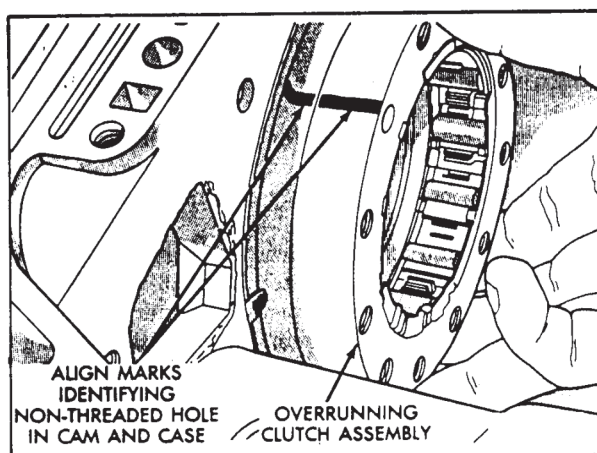

Figure 36
16. Align and install overrun clutch and cam into transmission case (See Figure 36).
19. Verify that your marks are aligned as shown in Figure 36.